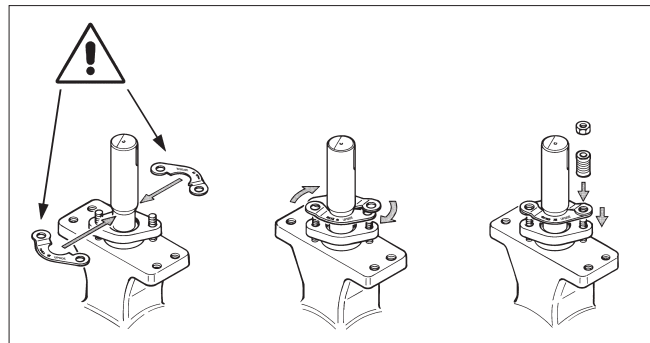

Fig. 10 Mounting the retaining plate
- Unfasten the nuts (25) and remove the disc spring (TA-Luft) sets (44), the retaining plates (42) and the gland (9).
- Remove old packing rings (20). Do not damage the surfaces of the packing ring counterbore and shaft.
- Mount the retaining plates with the text UPSIDE on top (see Fig. 10).